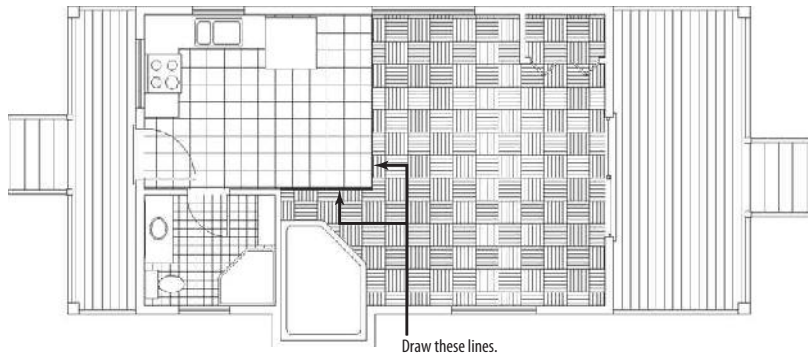

FIGURE 11.25: The hatch pattern on the rear deck and the line between the living room and kitchen
19. Draw a polyline with a width of 0 from the corner of the bathroom, perpendicular to the living room window opening and then directly to that window, as shown in bold in Figure 11.25.